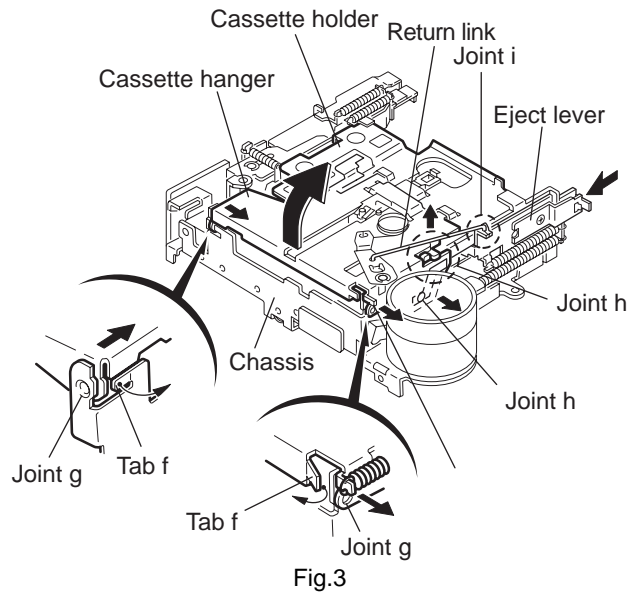

Fig.3
3.2.6 Removing the cassette hanger / cassette holder (See Fig.3)